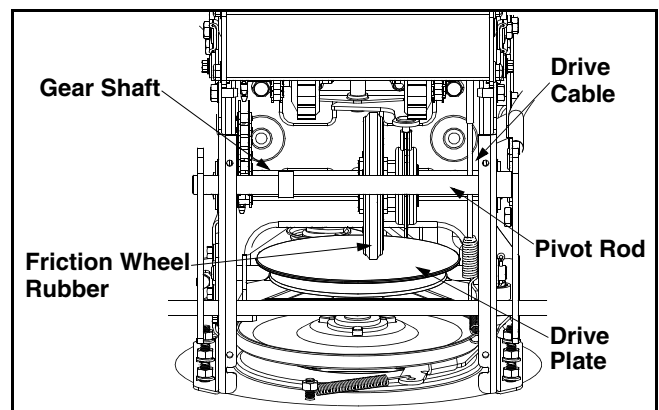

Figure 10
- With the drive control engaged, the friction wheel must contact the drive plate. See Figure 10.
Lubricate at least once a season or after every 25 hours of operation. Remove the rear cover, lubricate any chains, sprockets, gears, bearings, shafts, and shifting mechanism at least once a season. Use engine oil or a spray lubricant. **Avoid getting oil on the friction wheel rubber and aluminum drive plate.** Refer to Figure 10.
Lubricate the gear shaft with 6-n-1 grease at least once a season or after every 25 hours of operation (available at automotive stores, or order part number 737-0170). Refer to Figure 10.